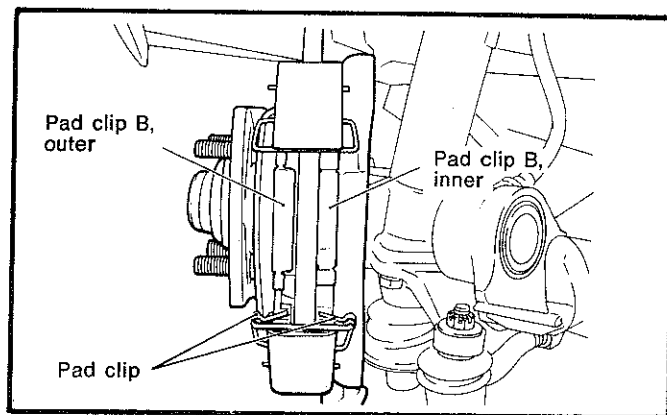

Fig. 6—Pad clip installation
- (1) If necessary, clean the exposed piston area.
- (2) Install the pad clips B and the lower inner and outer pad clips as shown in Fig. 6.
- (3) Sparingly lubricate the retainer plates and caliper sliding area with high melting point grease.